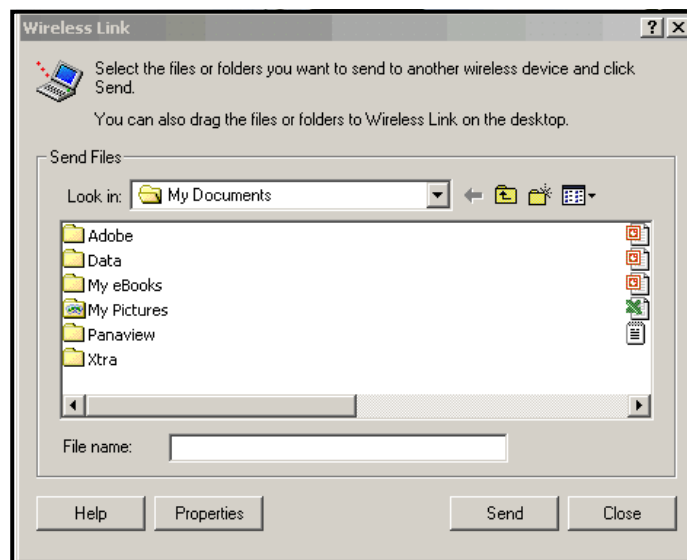

Figure 61: Wireless Link Window
1. Click on the *Infrared* icon in the System Tray . A window similar to Figure 61 appears.
2. Click on the *Infrared* icon in the System Tray . A window similar to Figure 61 appears.